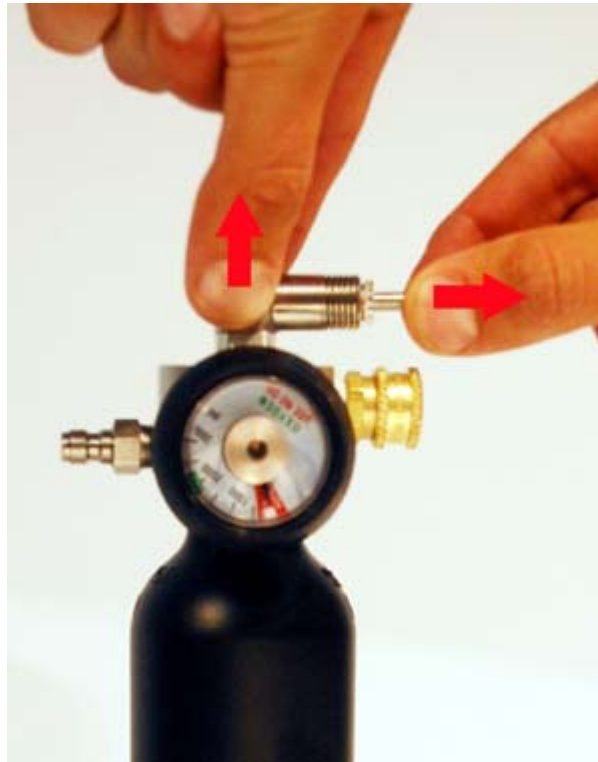

Figure 1, removing the Trigger Housing.
2. While pulling back on the Trigger Pin remove the Trigger Housing, shown in figure 1. Neglecting to pull back on the Trigger Pin may cause damage to the Valve Stem.